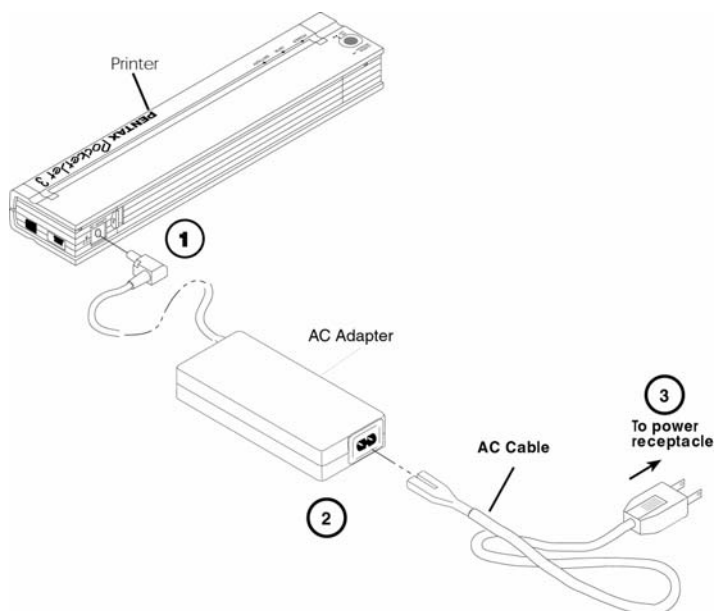

FIGURE 2. Connecting the printer to an AC power outlet
1. Connect the AC adapter to the printer as shown in Figure 2.
NOTE: *The plug shown on the AC power cord shown in Figure 2 is compatible with AC power outlets in the U.S.A., Canada, and some Central and South American countries. A plug adapter or different cord may be necessary for AC power in other countries or you can contact your local reseller or Pentax for further assistance.*